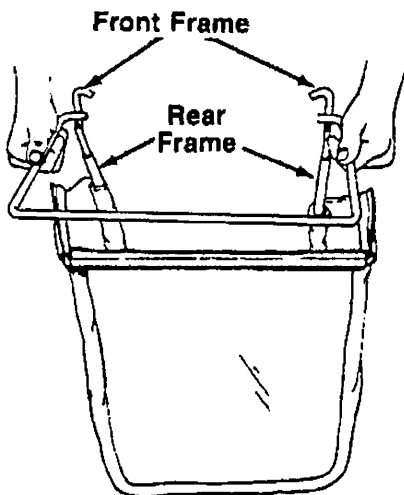

FIGURE 16.
2. Slide the ends of the front frame assembly into the ends of the rear frame as shown in figure 16.